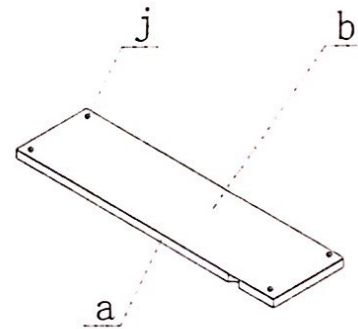

Figure 12
(B) Steel Plate Replacement (Figure 12)